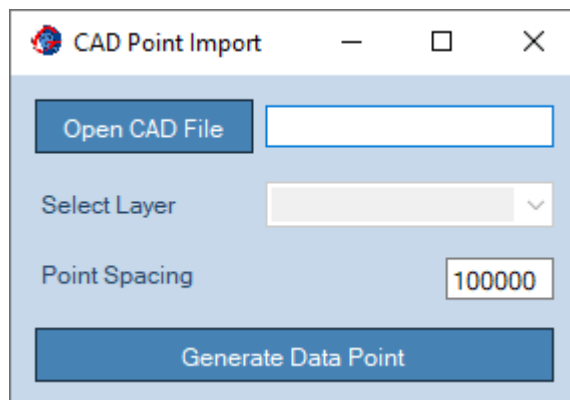

Figure 19: CAD Point Import.
- **CAD File:** If this option is selected the dialog window shown in Figure 19 is displayed. The cloud of points will be created from a set of 2D/3D polylines from a specific layer.